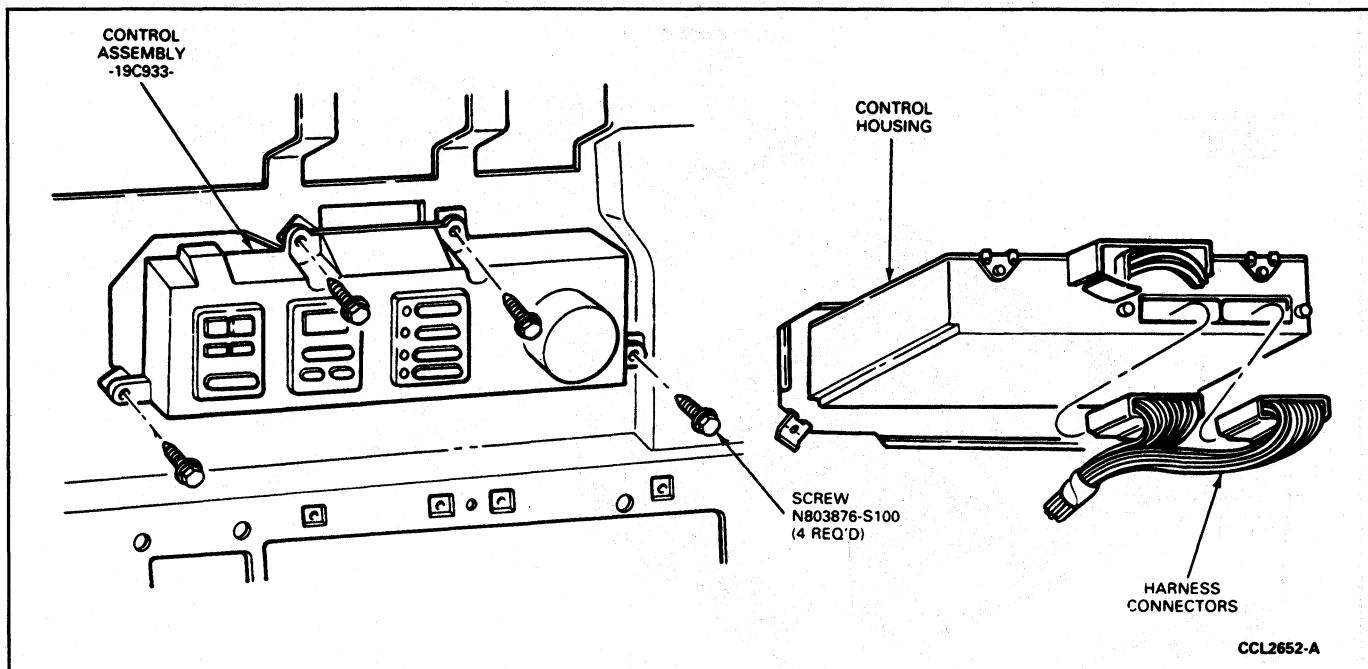

FIG. 18 Control Head Attachments
2. Pull out lower LH and lower RH instrument panel snap-on finish panel inserts. Remove eight screws retaining upper finish panel (Fig. 18).
1. Connect two harness connectors to control assembly. Push keyed connectors in until a click is heard (Fig. 18).
2. Remove LH radio speaker grille assembly and remove sunload sensor assembly from two mounting studs (Figs. 18 and 19).